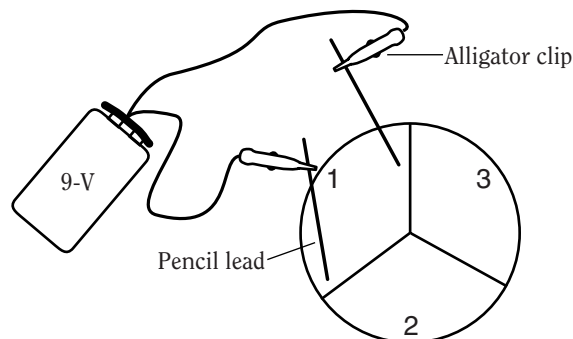

Figure 1. Petri Dish Electrolysis.
The purpose of this experiment is to identify the products obtained in the electrolysis of aqueous potassium iodide, copper(II) bromide, and sodium chloride solutions. The electrolysis reactions will be carried out in an electrolytic cell consisting of a Petri dish, a 9-V battery, and carbon (pencil lead) electrodes (Figure 1).